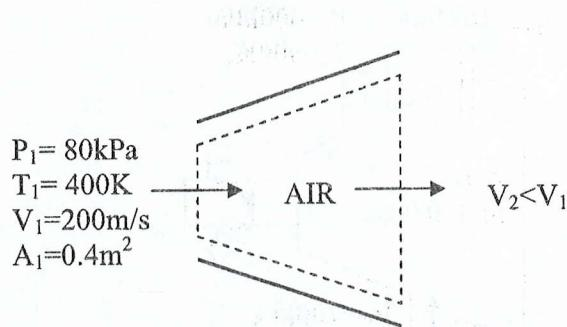

Figure 1: Schematic for a diffuser system
- (b) Air at  $10^\circ\text{C}$  and  $80\text{kPa}$  enters diffuser of a jet engine steadily with a velocity of  $200\text{ m/s}$ . The inlet area of the diffuser is  $0.4\text{ m}^2$ . The air leaves the diffuser with a velocity that is very small compared with the inlet velocity (refer Figure 1).